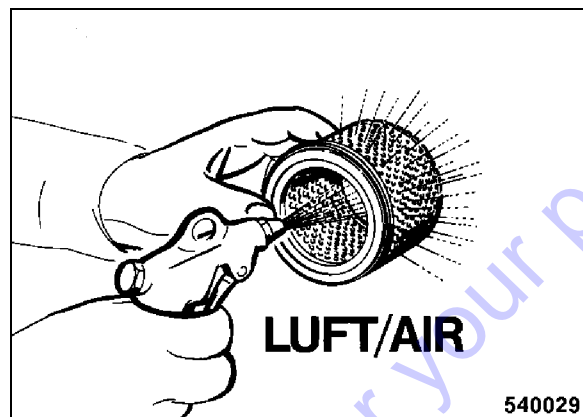

Fig. 72
- In case of dry fine dust blow out the filter cartridge carefully from inside to outside with dry, clean compressed air (Fig. 72) (max. 6 bar (87 psi)).